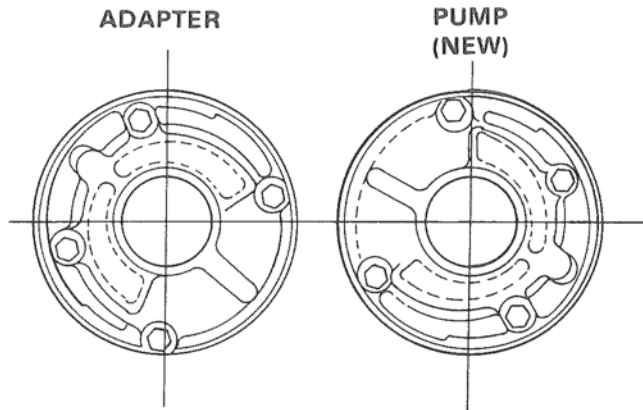

Figure 111. Orientation Markings for New 71-1A60 Pump Assembly on 71-8B Adapter.
- B. Orientation of pump mounting bolt holes and direction of rotation arrow, depending on desired direction of input rotation. Figure 111 or 112.
The newer pump assembly with backing plate, identified by the rib on the pump housing, will be properly mounted when the marking on the pump housing appears as shown in Figure 111, when mounted on the 71-8B adapter. If the same pump were mounted on the new adapter 71C-8, Figure 77, the pump markings would be identical to those illustrated for the new 71C-A60 pump in Figure 84.